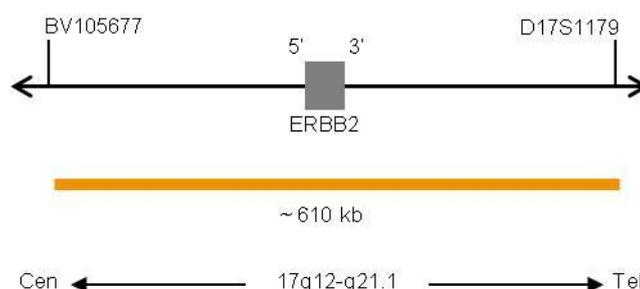

Fig. 1: SPEC ERBB2 Probe map (not to scale)
- ZyOrange (excitation 547 nm/emission at 572 nm) labeled polynucleotides (4.5 ng/ μ l), which target sequences mapping in 17q12-q21.1* (chr17:37,572,531-38,181,308) (see Fig. 1).